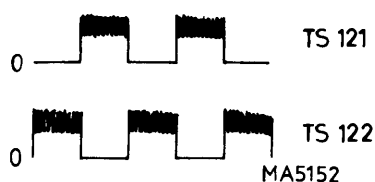

Fig. 43. Emitter signals of TS121 and TS122
- Check the signal on the emitters of TS121 and TS122 with an oscilloscope. During cut-off the signal will contain noise, and the signal on TS121 will be shifted 180° in phase with respect to the signal on TS122 (Fig. 43).